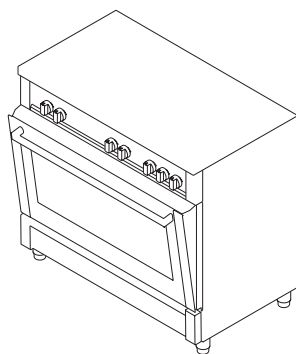

Figure 28
4. And then secure the safety panel in between oven and front cover by gently closing the cover. (figure 28)